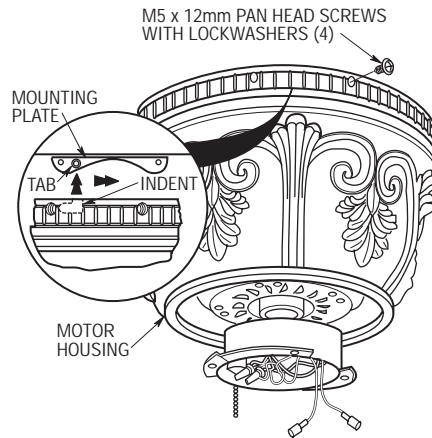

Figure 8
- 9. Align the two indents on the inside of the motor housing with the two tabs on the mounting plate (Figure 8). Turn the housing clockwise to hold the housing on the mounting plate. Secure the housing to the mounting plate by installing four pointed M5 x 12mm pan head screws with lockwashers (supplied).